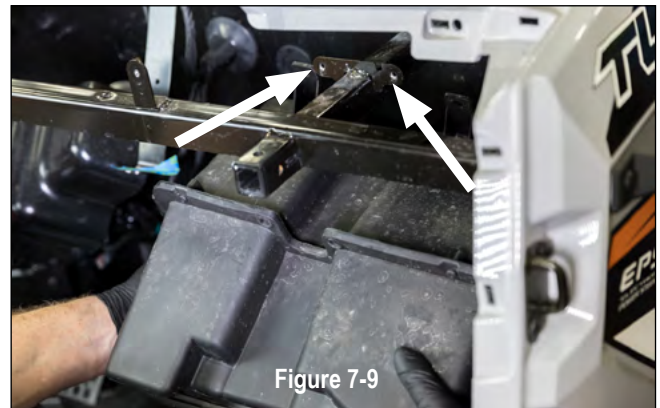

Figure 7-9
Remove (2) 10mm bolts on the top of the glove box where it is fastened to the grab bar framework. See holes in Figure 7-9. The glove box will easily slide out. A different mounting method is used for the new subwoofer.